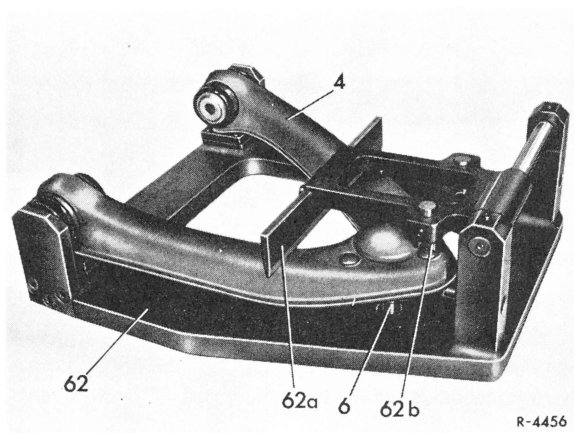

Fig. 1
**1** To check for bending and non-parallelity, place the complete control arm with rubber mounts in the special device (62) (Fig. 1).